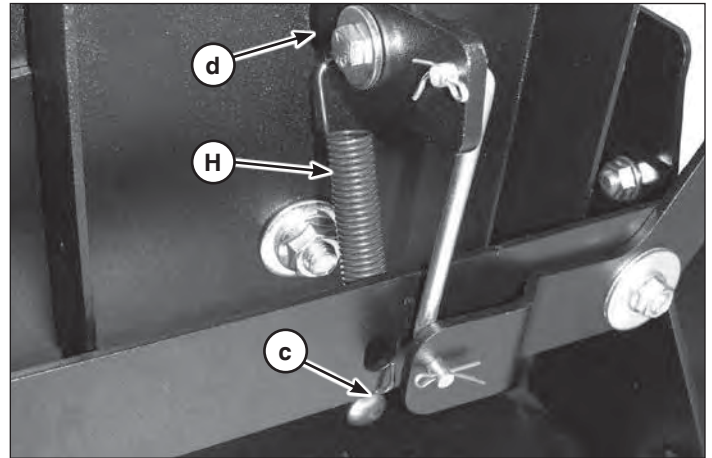

Figure 11
- Attach the spring extension (**H**, Figure 11) to the notch (**c**) on the blade assembly and hole (**d**) on the pivot assembly.